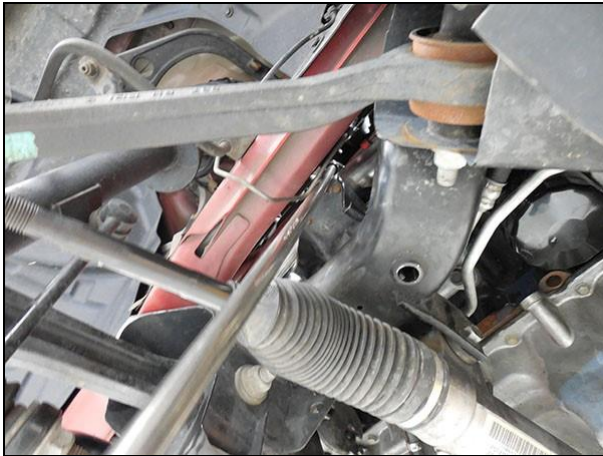

Figure 1 – Access to top center bolt passenger's side
4. Hang the **RIGHT** header assembly on to the bolts then install the four remaining top bolts. Access to most of the header bolts can be done with the 24" extension and a 13mm swivel socket through the primary tubes (**Figure 1**).